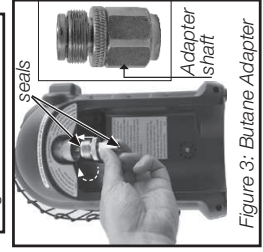

Figure 3: Butane Adapter
- Check that seals (between the appliance and the gas cartridge) are in place and in good condition before connecting to the gas cartridge. Figure 3. Do not use an appliance which has damaged or worn seals. Do not use an appliance which is leaking, damaged or which does not operate properly
- To use with Butane/Propane mixture (G30+G31): Screw brass adapter clockwise into portable heater regulator (from bottom) until tight. See Figure 3. Do not use thread sealant on this connection. Screw butane propane mixture cartridge into the adapter (clockwise), once the shaft on the adapter starts to turn the cartridge is connected, then fit the cartridge into the stand.